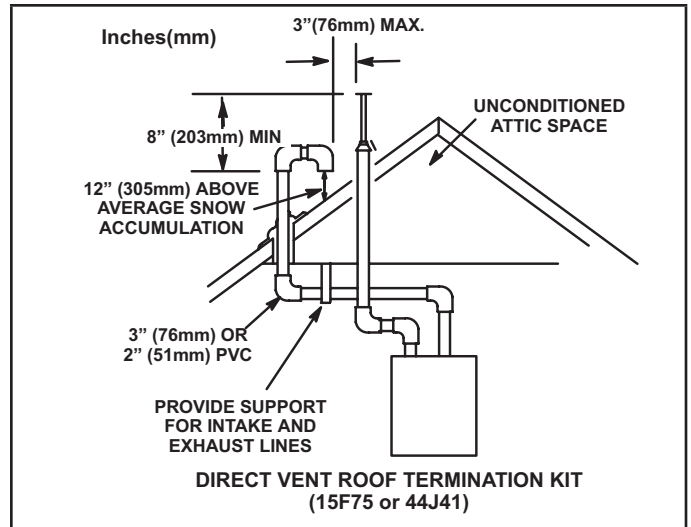

FIGURE 24
Intake and exhaust pipes may be routed either horizontally through an outside wall or vertically through the roof. In attic or closet installations, vertical termination through the roof is preferred. Figures 24 through 31 show typical terminations.
- 3 - On roof terminations, the intake piping should terminate straight down using two 90° elbows (See figure 24).